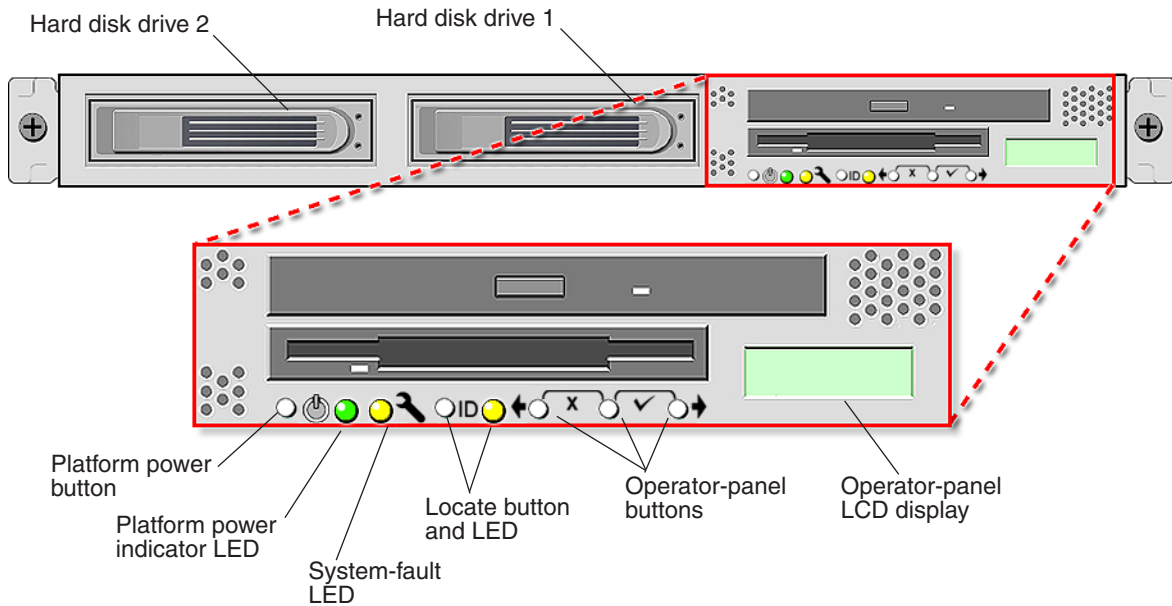

FIGURE 1-1 Sun Fire V20z Front Panel
FIGURE 1-1 shows the front panel of the Sun Fire V20z server.
- FIGURE 1-1 shows the operator-panel location on the Sun Fire V20z front panel.